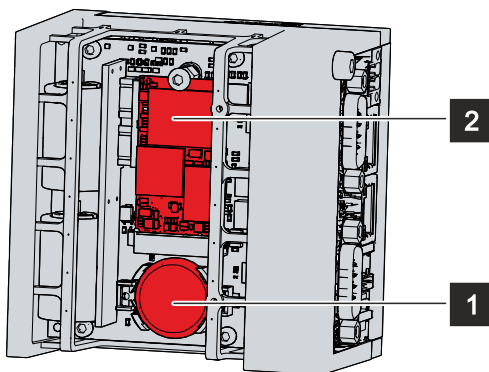

Fig. 28: C6017 _Battery and storage media
You now have access to the battery (1) and storage medium (2) (see Fig. 28).